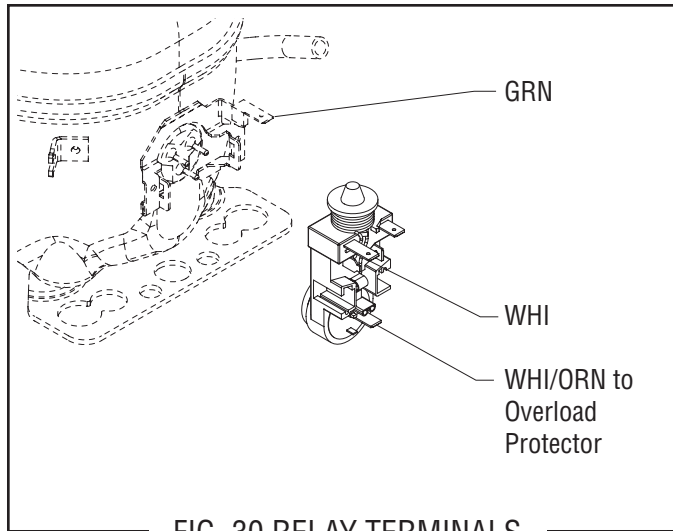

FIG. 30 RELAY TERMINALS
Compressor Start Relay: Refer to FIG. 30
1. Remove the terminal cover (4)
3. Pull relay (1) off of the compressor pins and discard.
5. Refer to Fig. 30 and reconnect the wires.
6. Reinstall terminal cover (4).